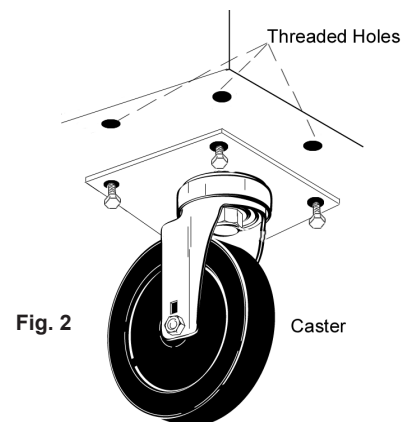

Fig. 2
Please note that Traulsen units are not designed to be moved while on legs. If the unit requires moving, a pallet jack or forklift should be used to prevent damage. For installing casters, the casters are a "plate" type, and require the use of four (4) bolts each to secure them firmly to the cabinet bottom at each corner (see figure 2). The caster bolts are tightened using a 1/2" socket wrench.